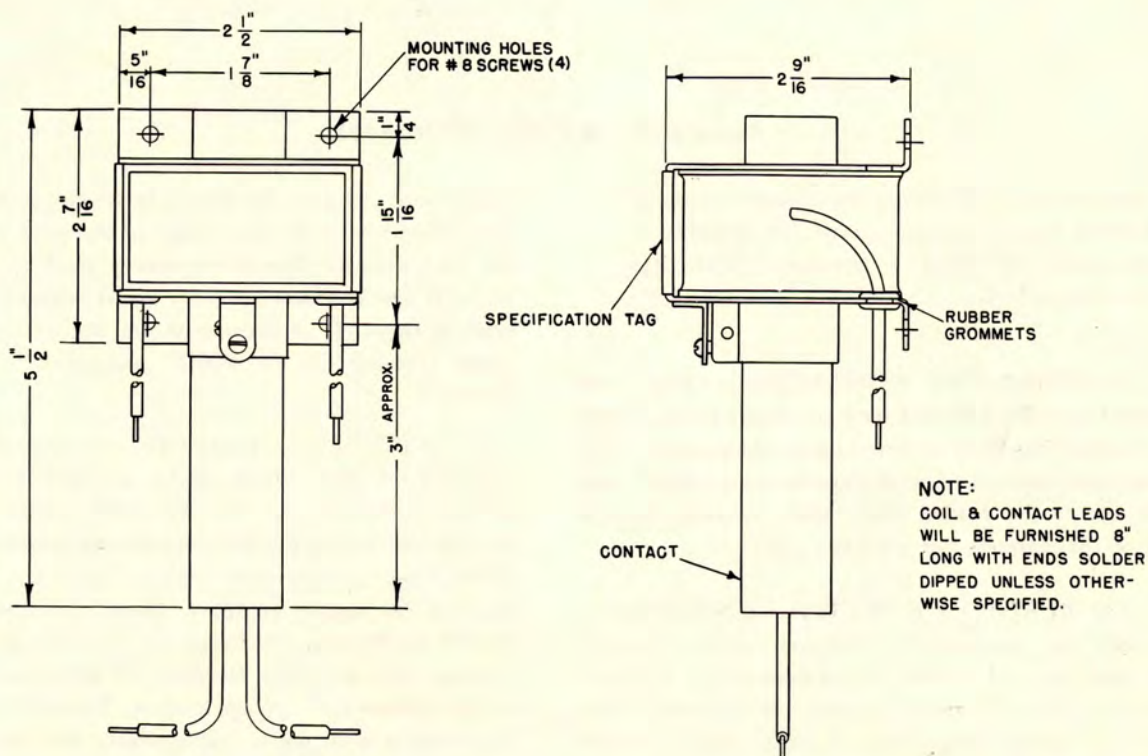

Figure 6-6. Normally Closed Time Delay Relay, Mercury Column Type (K117)
BEFORE TOUCHING ANYTHING WITHIN THE OSCILLOSCOPE, USE A CAPACITOR-DISCHARGE ROD TO GROUND ALL EXPOSED CIRCUITS, PARTICULARLY THE INTENSIFIER-RING CONNECTION ON THE CATHODE-RAY TUBE. (SEE FIGURE 6-6 OF THE OSCILLOSCOPE INSTRUCTION BOOK.)
e. REPLACEMENT OF TUBES IN THE MONITOR OSCILLOSCOPE. — No special instructions are needed for any of the scope tubes except the cathode-ray tube. Tube locations are shown in figures 6-6 and